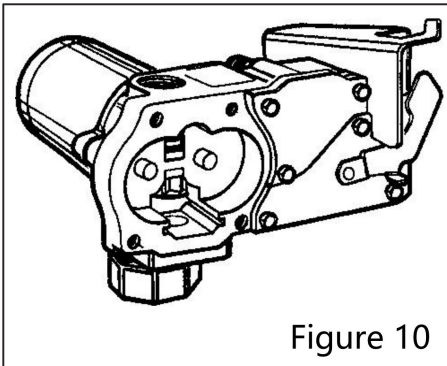

Figure 10
Turn the pump OFF and disconnect from power. Remove the switch cover plate from the pump housing. (Figure 10)
- Remove the switch cover plate from the pump housing. (Figure 10)